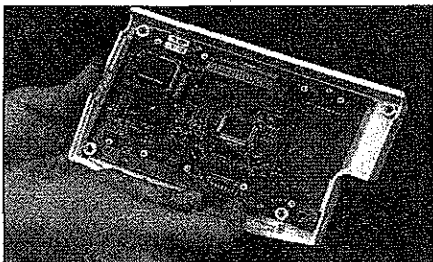

Figure 31
2. Disconnect the membrane switch mylar ribbon cable from the display PCB (see Figure 31).